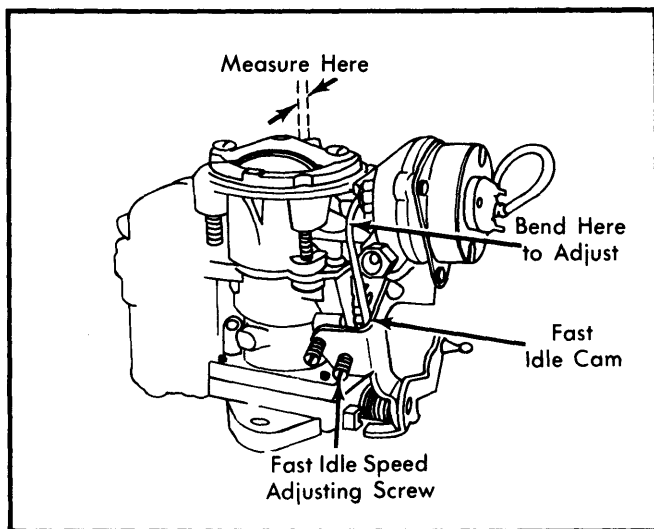

Fig. 6 Adjusting Fast Idle Cam
- 1) Loosen choke coil housing retaining screws. Turn housing 90° in closing (rich) direction to lightly close choke valve. Tighten 1 screw. See Fig. 6.